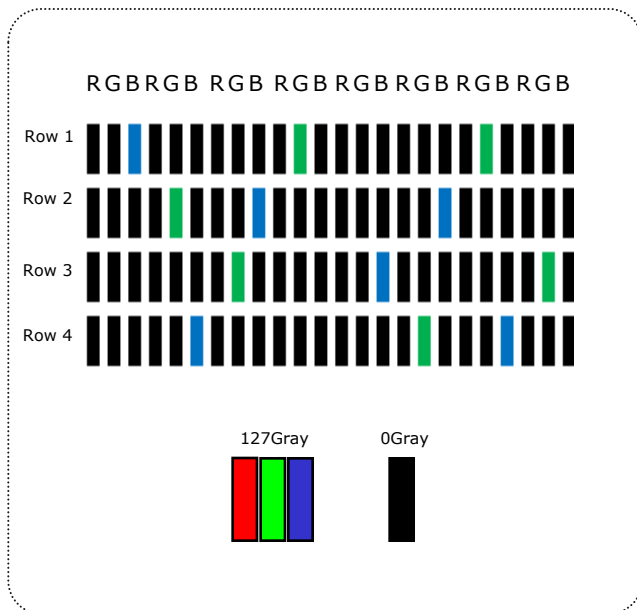

FIG. 7 The Pattern of VCOM control
- Fig.7 is the pattern for control & inspection. This pattern made the optimized display about Flicker by FRC ,etc..